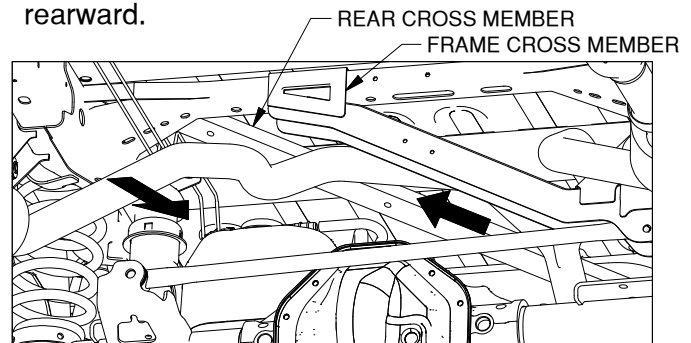

Figure B2: View looking under truck bed toward the cab.
- Place the rear cross member.** The rear cross member is the 2" x 1" bar with three threaded holes. Pass the cross member over the axle on the driver side of the differential from the rear. Angle the leading end of the bar toward the passenger side of the frame while going in front of the exhaust. Place the trailing end of the bar over the driver side frame rail, as shown in Figure B2. Swing the leading end of the cross member over the passenger side of the frame so that it is parallel with the axle. Rotate the bar so that the threaded holes are horizontal, and the bar is sitting on top of the frame cross member. Slide the bar rearward until it is touching the bed cross member. Make sure that the wiring harness does not get pinched or smashed while moving the cross member rearward.